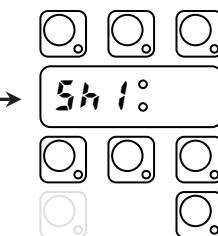
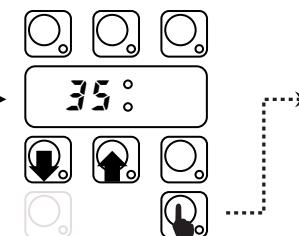

Fig. 48 Wash duration [sec].
Fig. 49 Wash duration
- Press CYCLE\_INFINITE key to confirm. The display shows the next parameter (Figure 48) and the corresponding value (Figure 49);